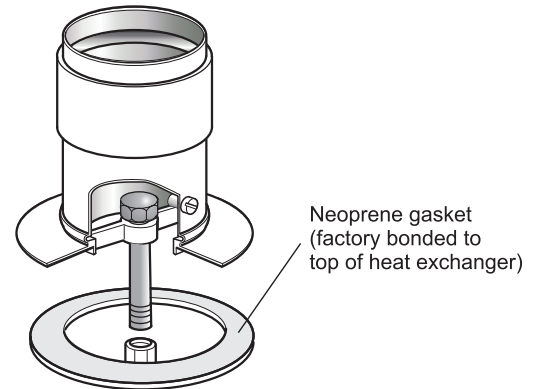

Fig. 21 - Conventional flue adaptor - suitable for all models upto 46 kW
- 4 Cut the insulation into three equal pieces and replace two - either side of the flue opening in the case top panel. Fit the conventional flue adaptor (Part No. CFCA15/46 not supplied with boiler) on to the neoprene gasket around the flue outlet on top of the boiler. Secure in position using the 40 mm stainless steel bolt supplied with the boiler as shown in Fig. 21.